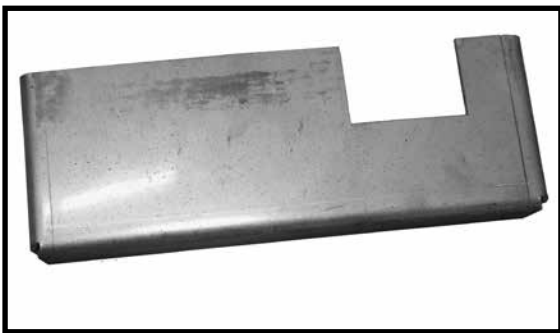

Figure 34: Bottom shield.(Part #80002585)
1. Install the Bottom shield (Figure 34) first over the metal protrusion as shown in Figure 36.